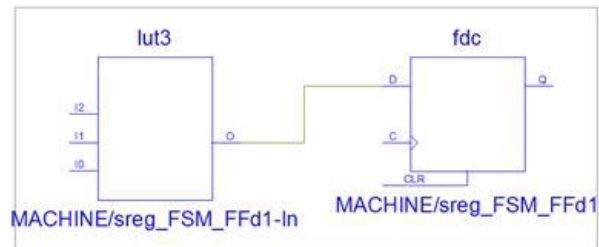

Figure 7-6: **New Schematic**
3. Press the New Schematic with Selected Objects button to start a new schematic. The new schematic appears as shown in Figure 7-6. You can continue to further expand as described in earlier lab segments.